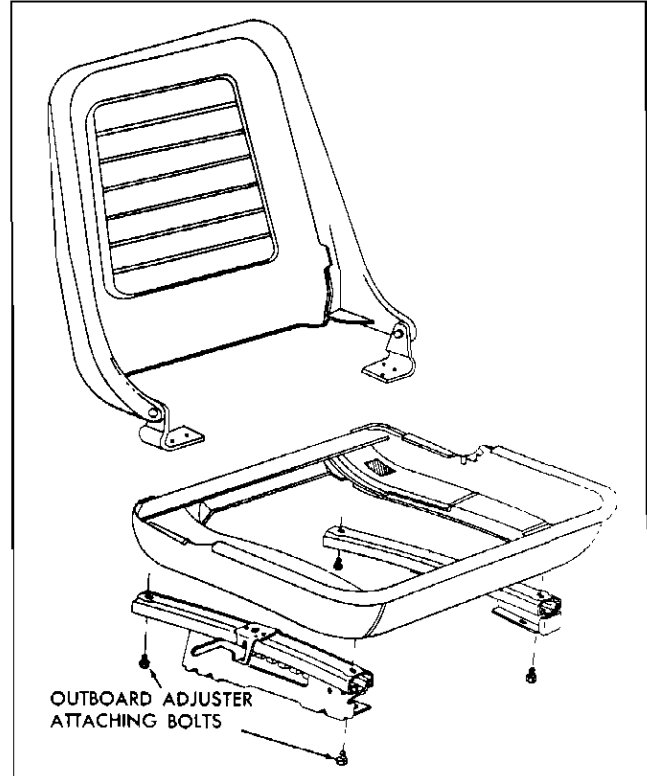

Fig. 5-9 Bucket Seat Adjuster Attaching Bolts
3. Remove seat adjuster-to-seat bottom frame bolts (Fig. 5-9) and remove adjuster from seat.